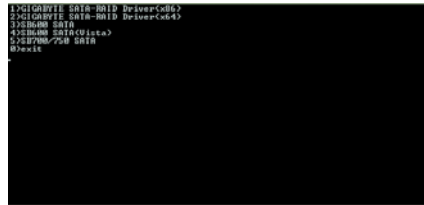

Figure 2
Step 2: When the controller menu (Figure 2) appears, remove the startup disk and insert the blank formatted disk. Select the controller driver by pressing the corresponding letter from the menu. For example, from the menu in Figure 2, to install Windows XP to your RAID/AHCI hard drives, select (5) SB700/750 SATA for the AMD SB700 SATA controller. Your system will then automatically zip and transfer this driver file to the floppy disk. Press <O> to exit when finished.
Use an alternative system and insert the motherboard driver disk. From your optical drive folder, double click the MENU.exe file in the BootDrv folder (Figure 3). A command prompt window will open similar to that in Figure 2.